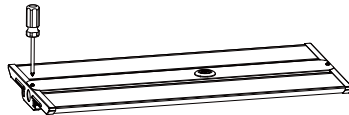

Figure 7
Step1.Unscrew the two screws on the front of the lamp;[Figure 7]